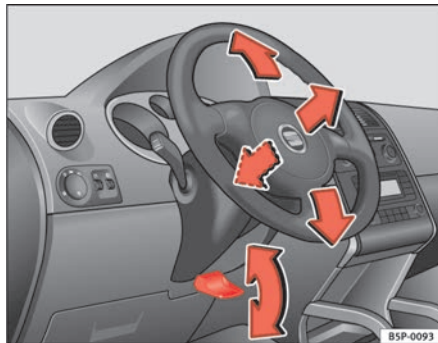

Fig. 132 Adjusting the steering wheel position
- Push the lever under the steering column ⇒ fig. 132 down ⇒ ⚠.